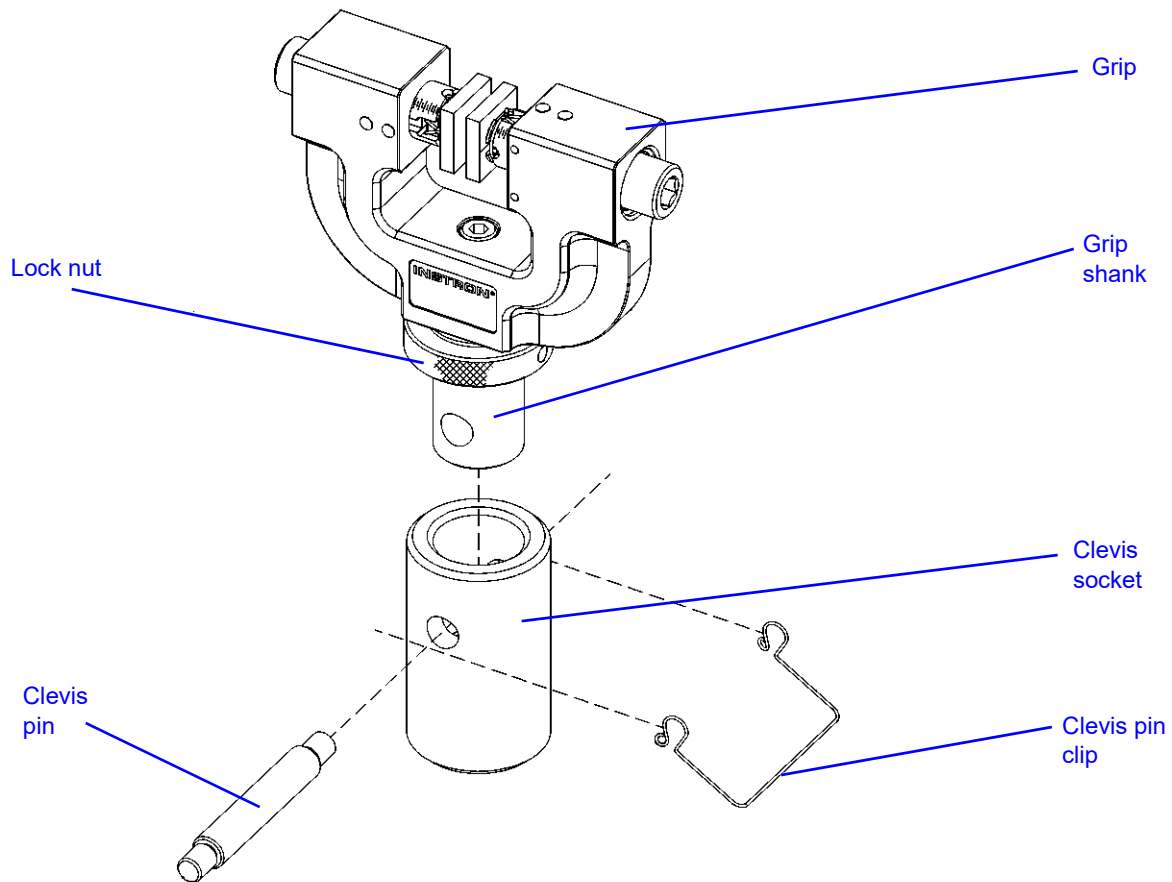

Figure 2-4. Grip with Clevis Pin Coupling
Figure 2-4 on page 2-14 shows a typical grip with clevis pin coupling.
1. For the lower grip, insert the adapter on the grip into the female clevis socket on the load frame base adapter, as shown in Figure 2-4 on page 2-14.